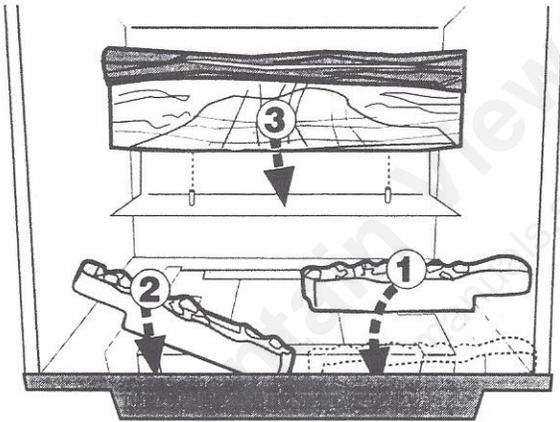

Figure 21. Install the Ember Logs and Rear Log.
2. Push the burner assembly fully to the rear, by hand. Place the Right (1) and Left (2) front Ember Log sections in the slot at the front of the firebox, as in Fig. 21. Reach to the back of the burner and pull the burner tray fully forward against the Ember Logs.
3. Install the Rear Log (3) by engaging it with the pins on the sheet metal shelf at the back of the firebox as in Fig. 21.